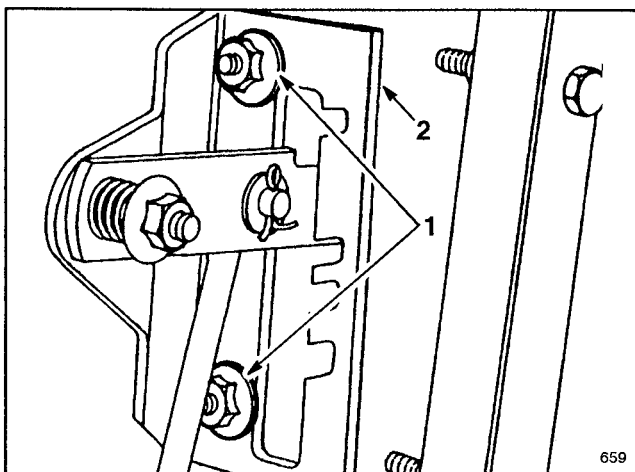
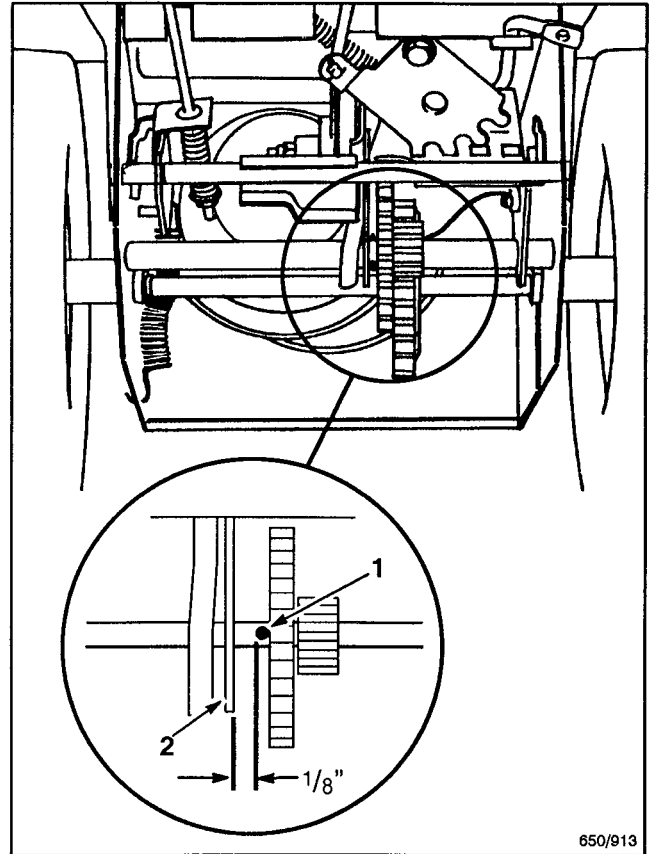

Figure 27
Figure 28
3. Loosen flange nuts securing selector plate to control panel. This allows selector plate to move freely for adjustment (Fig. 27).
4. Shift speed selector to third gear and push down on speed selector plate to move drive assembly to the right. Drive assembly should be $1/8$ " from roll pin; if not, slide selector plate (Fig. 27) until $1/8$ " dimension is correct (Fig. 28).